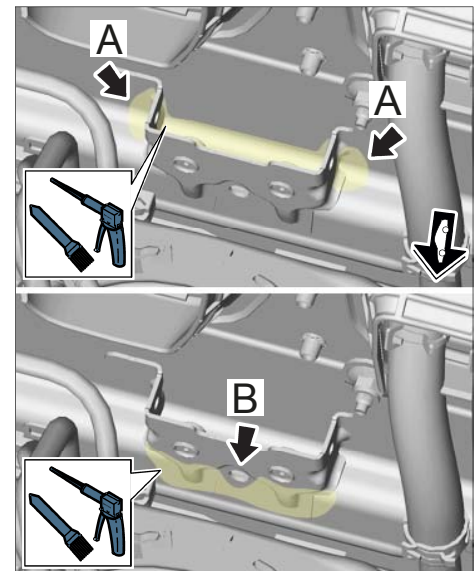

Figure 29
- 1.1 Apply body sealant to the area marked in yellow ⇒ *Figure 29* inside and outside ⇒ *Figure 29 -arrows A-* the bodyshell mounting and spread it out evenly with a brush.
- 1.2 Apply body sealant to the area marked in yellow ⇒ *Figure 29* over the welded seams and spread it out evenly with a brush.
Make sure not to block the water drain bore ⇒ *Figure 29 -arrow B-* with body sealant.